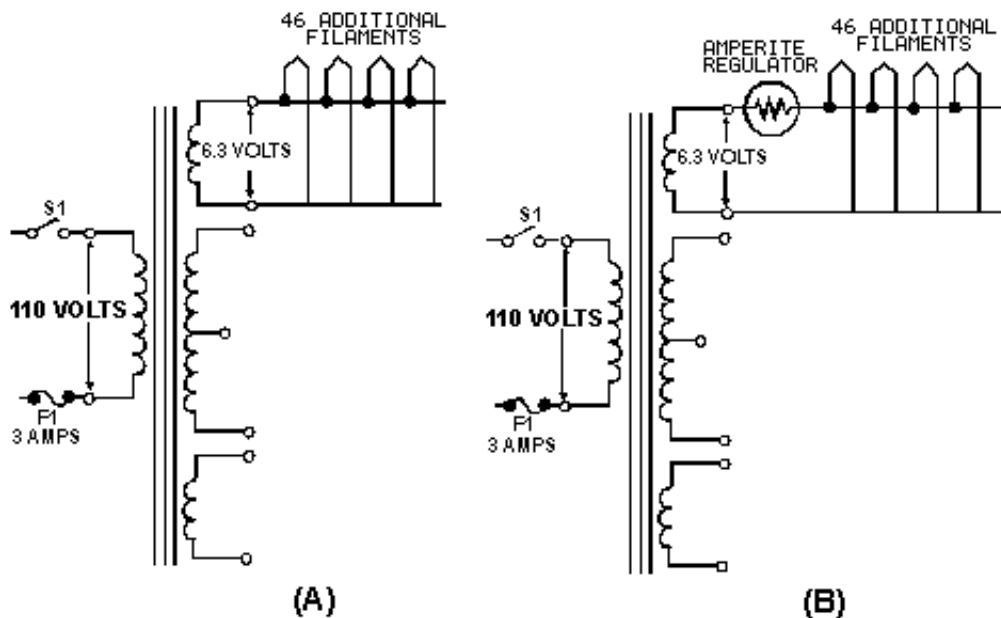

Figure 3-49.—Amperite regulator.
There are some cases in which current must be regulated or kept at a relatively constant value. The best example of this is the filament supply of a power transformer located in a power supply that is designed to supply filament power to many tubes. You can see this in view (A) of figure 3-49, which is a portion of a power supply designed to supply 50 vacuum tubes with both plate and filament voltages. Under normal conditions, circuit current will not exceed 2.5 amperes. For this reason, the power supply has been fused at 3 amperes. Because you are only interested in current regulation at this time, only the portion of the power supply that deals with current regulation is shown; namely, the power transformer and four of the 50 parallel connected vacuum-tube filaments. At operating temperatures, the resistance of each filament is 1 kilohm. Because the filaments are connected in parallel, the total filament resistance at operating temperature is 20 ohms. Ohm's law,
View (B) of figure 3-49 shows the amperite regulator connected in series with the filaments of the load. When the power supply is first energized, the iron wire of the amperite gets hot quickly and presents a large resistance connected in series with the 2 ohms of filament resistance. As a result, most of the voltage is dropped across the amperite. Because of the large resistance of the amperite regulator, current in the circuit is held to an acceptable level in accordance with Ohm's law: